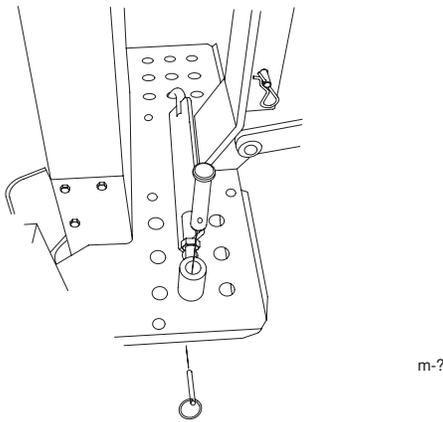

Figure 25
- B. Pin the side bars in the storage positions as illustrated in Figure 25.